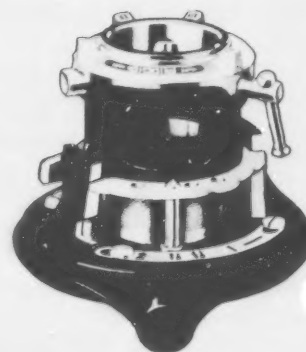

Figure 7-27. Pipe Threader Not Requiring Force
d) Threaders such as shown in Figure 7-27 do not require force, but are drawn onto the pipe as it is rotated. The locking device at the rear must be tightened to the pipe.